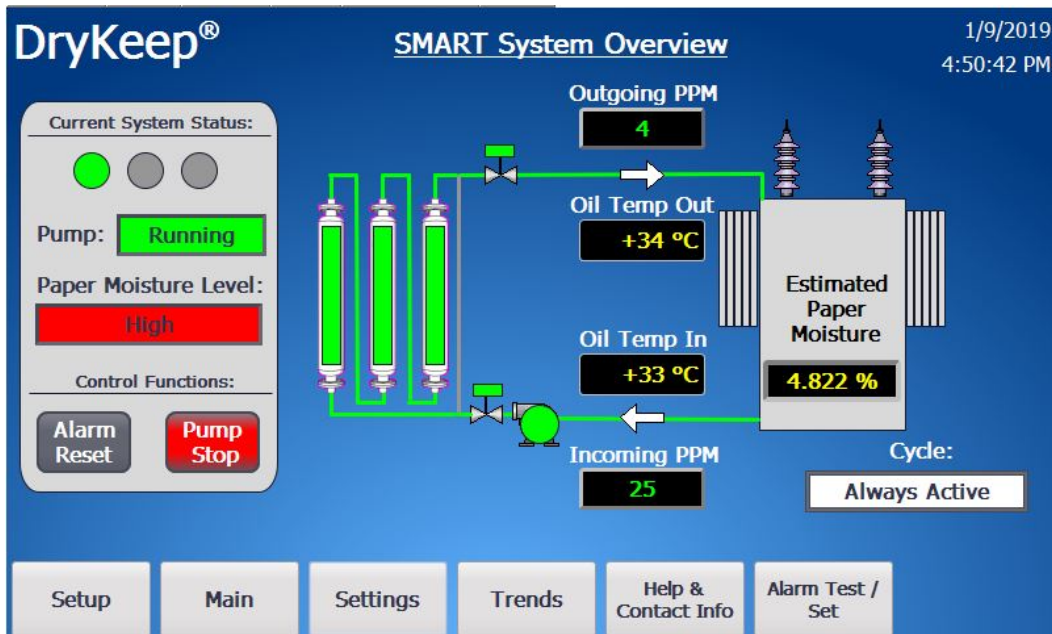

Figure 8: Main screen in Always Active Cycle for new transformers
- 9) For new transformers being placed into service for the first time, pushing “YES” on the top question will set the SMART system to the Always Active cycle. The pump will run continuously to remove residual or new moisture. The SMART display will go to the Main screen shown in Figure 8.
- 11) For transformers that have just been dried down to sufficiently bring the level of moisture in the paper down to the acceptable level (at or below 1.3%) just prior to DryKeep® being installed, selecting YES will set the SMART system to the Always Active cycle. The pump will run continuously to remove residual or new moisture. The SMART display will go to the Main screen shown in Figure 8.